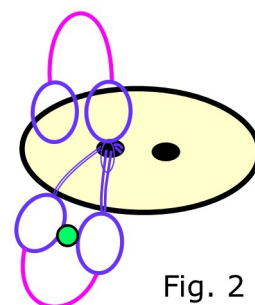

Fig. 2
**Join 2** - for even number rings (2, 4, 6, 8, 10 & 12) take the hook THROUGH the picot of a ring on round 1, down through the buttonhole and pull the loop back up as before. Make 6 joins into the first hole and then the next 6 into the second hole. See fig. 2.